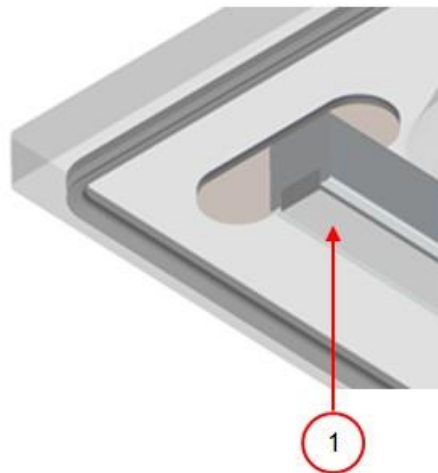

Figure 15: Replacing the Silicone Rubber of the Silicone Holders
1. Pull the old silicone rubber from the holder, see *Figure 15: Replacing the Silicone Rubber of the Silicone Holders* on page 30.